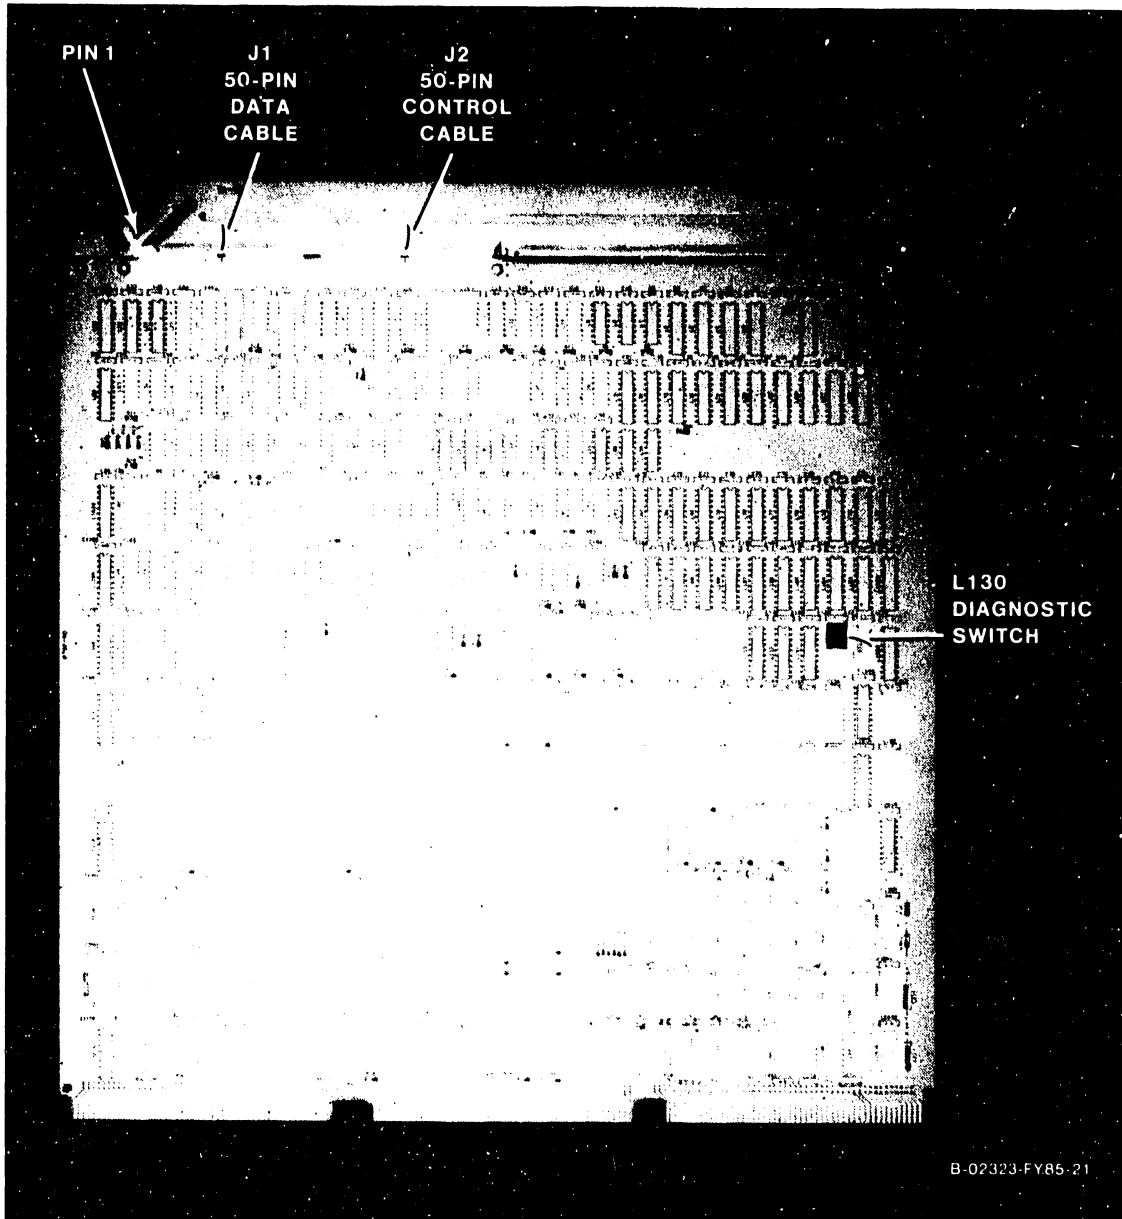

Figure 5-31. 23V95-1 Kennedy Tape IOC
1. Disconnect all cables from the top of the 23V95-1 Kennedy Tape IOC (figure 5-31). Note the position of all cables for later reassembly.